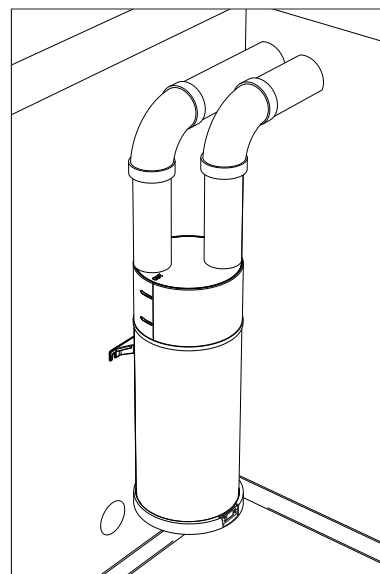

fig. 34
- Ducted IN and OUT ("fig. 34" and "fig. 35")